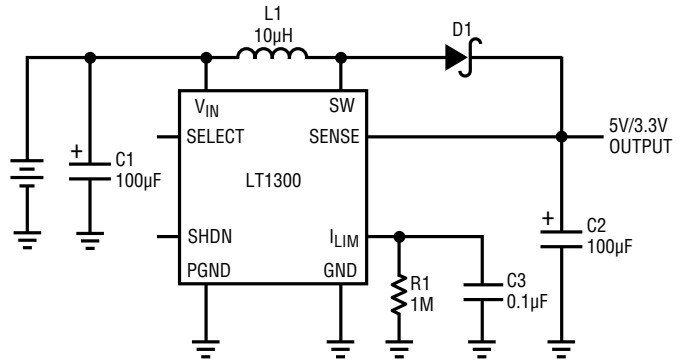
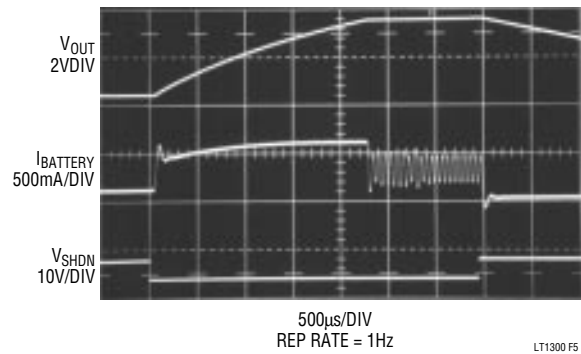
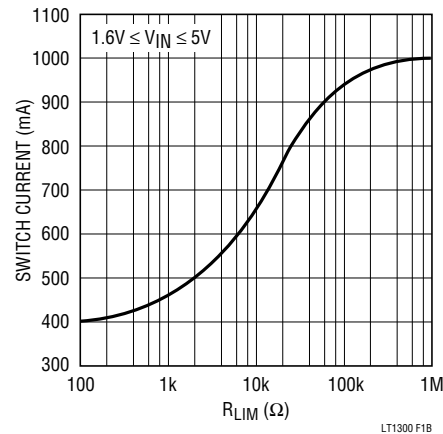

Figure 4. Addition of R1 and C3 Limit Input Current at Startup
Figure 5. Startup Waveforms using Soft-Start Circuitry
Figure 6. Peak Switch Current vs.  $R_{LIM}$
**$I_{LIM}$  (Pin 5):** Float for 1A switch current limit. Tie to ground for approximately 400mA. A resistor between  $I_{LIM}$  and ground sets peak current to some intermediate value (see Figure 5).
The LT1300’s current limit ( $I_{LIM}$ ) pin can be used for soft start. Upon start-up, switching regulators require maximum current from the supply. The high currents flowing can create IR drops along supply and ground lines and are especially demanding on alkaline batteries. By installing an R1 and C3 as shown in Figure 4, the switch current in the LT1300 is limited to 400mA until the  $15\mu\text{A}$  flowing out of the  $I_{LIM}$  pin charges up the  $0.1\mu\text{F}$  capacitor. Input current is held to under 500mA while the output voltage ramps up to 5V as shown in Figure 5. The 1Meg resistor provides a discharge path for the capacitor without appreciably decreasing peak switch current. When the full capability of the LT1300 is not required, peak current can be reduced by changing the value of R3 as shown in Figure 6. With  $R3 = 0$ , switch current is limited to approximately 400mA.